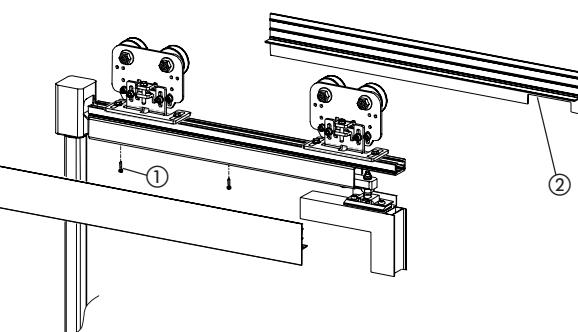

fig. 24
Provisionally position the panel support screws on the top rod (fig. 24 ref. ①) and rest the two covering panels, using the slots. Mark and cut the two covering panels to cover the leaf completely.
Make an opening on the panel (fig. 24 ref. ②), at the panel closure cover, to prevent the panel from interfering with the leaf break-out.